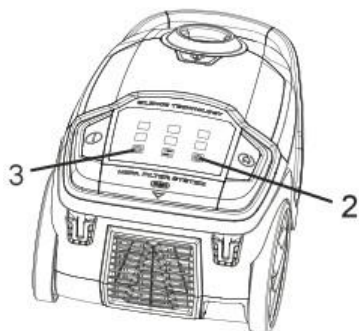

Fig.14
You can adjust the suction power to suit the type of floor being cleaned. Use the symbols on the suction power display as a guideline (Fig. 14/1):
- + button (Fig. 14/2)
- - button (Fig. 14/3)